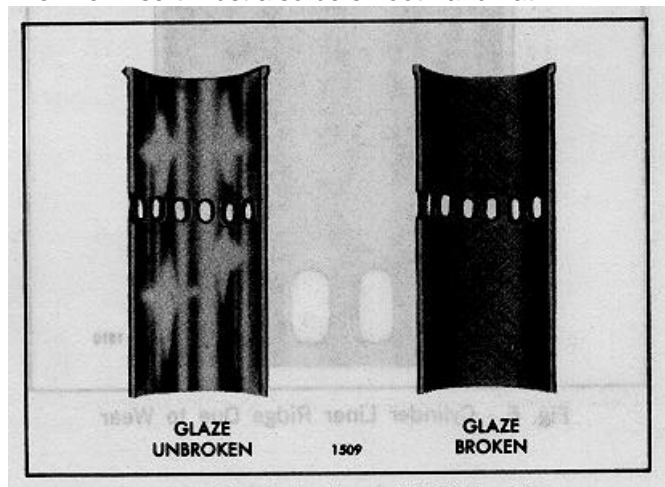

Fig. 5. Glazed Surface of Cylinder Liner.
1. Break the glaze (Fig. 5) due to the rubbing action of the piston rings which results after long periods of operation. Unless this glaze is removed, the time required to seat new piston rings will be lengthened.